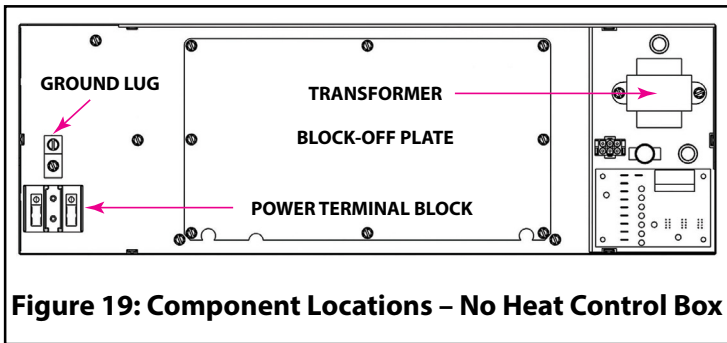

Figure 19: Component Locations – No Heat Control Box
2. Remove the block-off plate shown in Figure 19 and discard. Retain the screws, they will be used to secure the electric heater mount plate.
3. Remove the transformer wires and blower motor wires from the power terminal block and remove the power terminal block (See Figure 19).